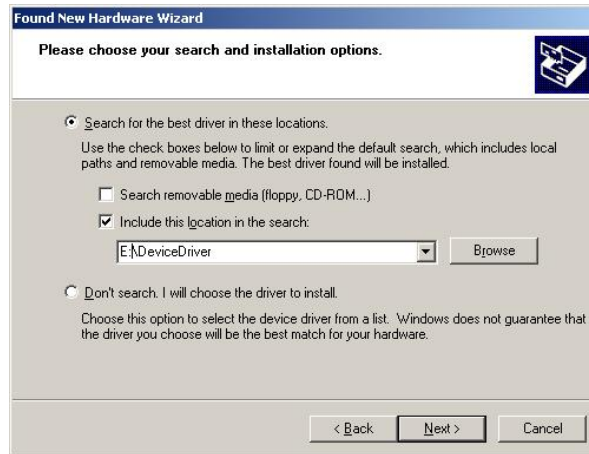

Figure 7-2 Select location of device driver
3. In select location of device driver dialog (figure 7-2), please select "X:\DeviceDriver" (X is CDROM drive) and click at "Next".